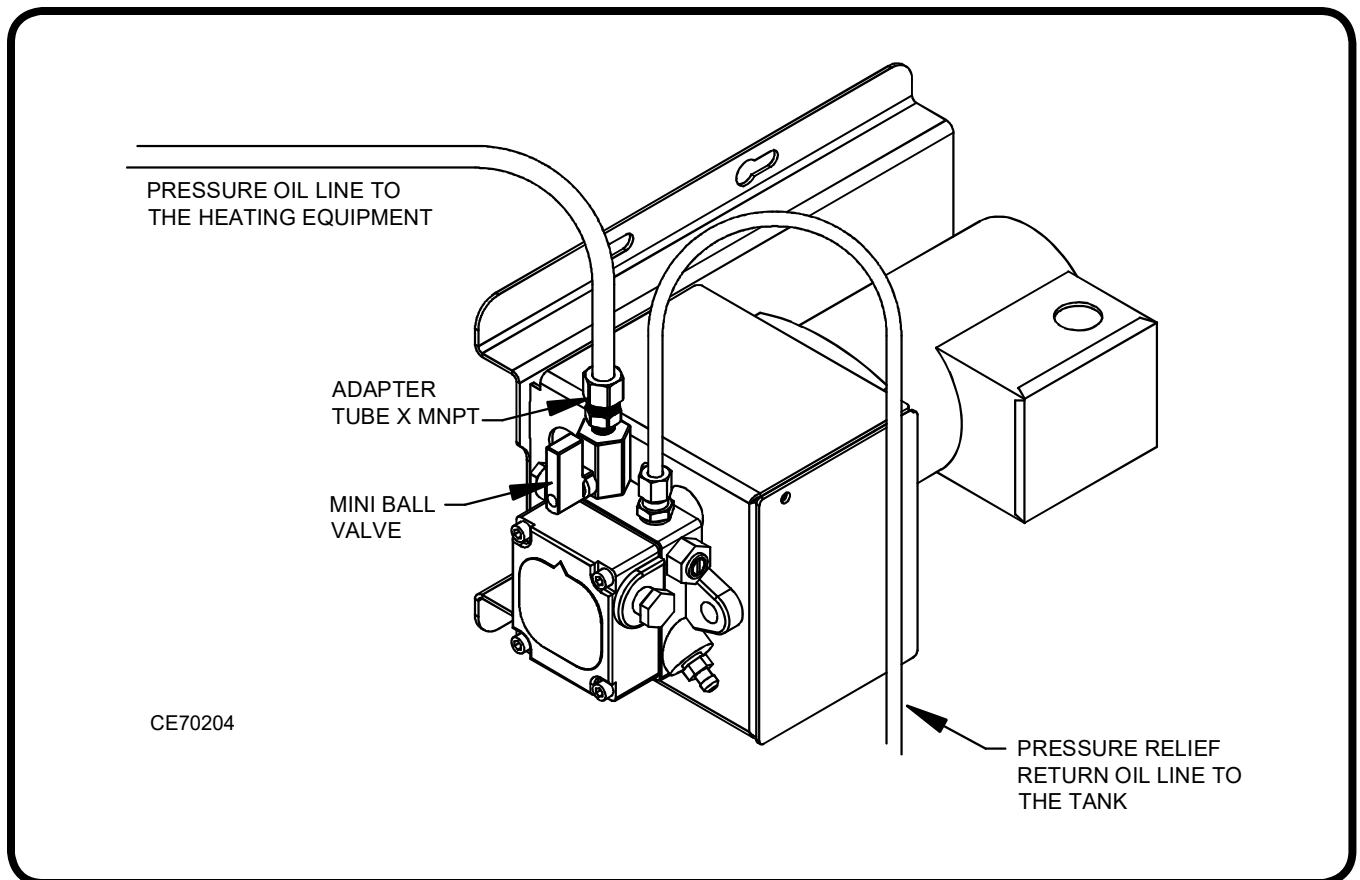

Figure 21: Metering Pump Oil Line Connections
- (1) Refer to Figure 21.
- (2) Determine the length of copper tubing needed for the pressure line (from pump to furnace) and use the appropriate sized tubing. If the pressure line is less than 100 feet, 3/8" copper tubing can be used. If the pressure line is greater than 100 feet, use 1/2" copper tubing. An adapter fitting may be needed when using 1/2" copper to make the connection between the tubing fitting and mini ball valve (50039 - 1/8 MNPT x 1/4 FNPT).